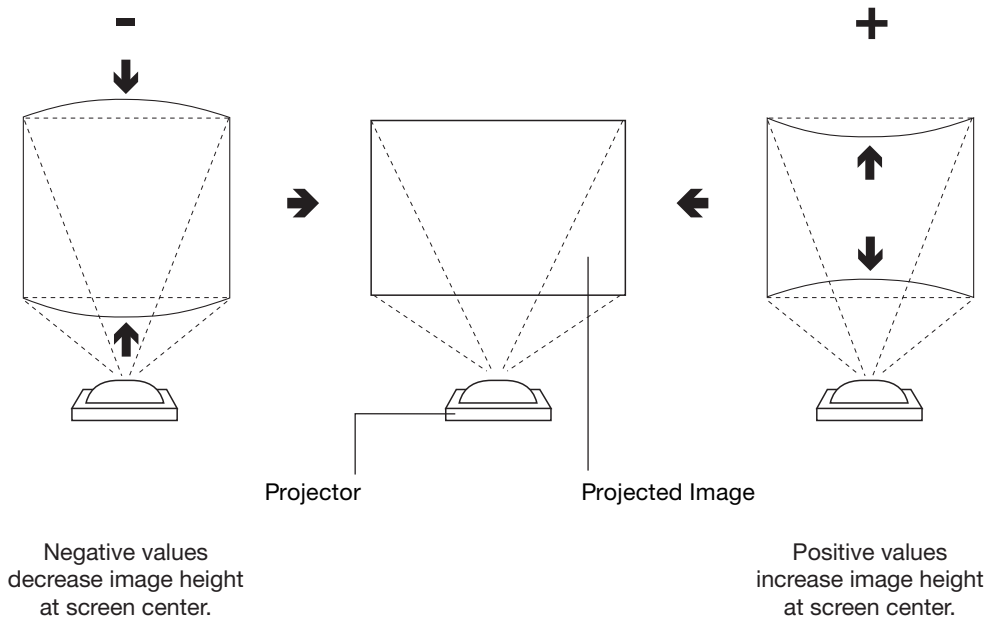

Figure 4-7. Pincushion Correction
- Pincushion:** "Pincushion" distortion can sometimes occur if the throw distance is very short and/or the projector is equipped with an anamorphic lens (refer to **Installing and Adjusting the CineWide Anamorphic Lens** in Section 3). To correct it, select Pincushion from the GeoCorrection menu and use the ◀ or ▶ button to make the image rectangular. See Figure 4-7.